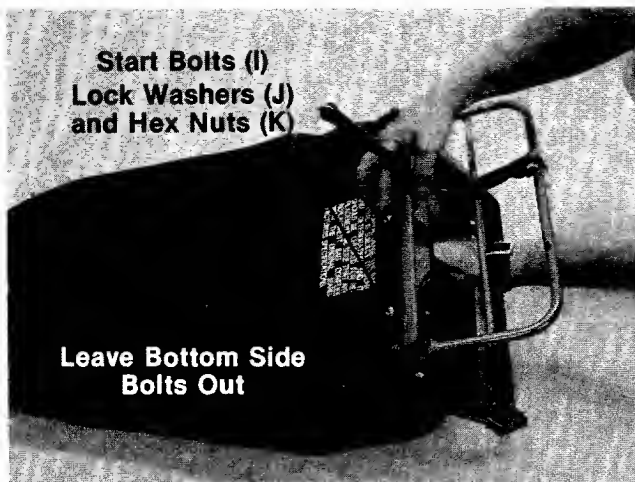

FIGURE 10.
2. Slip frame into grass bag. The black plastic is the bottom of the grass bag. Fasten edges of bag (with eyelets) to front frame with 3/8" bolts (I), lock washers (J) and hex nuts (K). Finger tighten. See figure 10. Hint: For easier assembly **Do Not** fasten lower bolts on sides until after step 3.